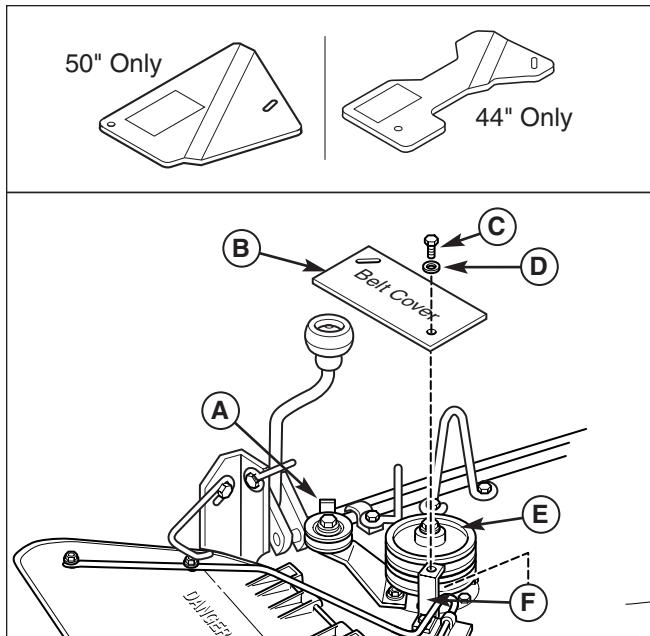

Figure 23. Install Belt Cover Plate
10. 44 and 50" Models - Attach the belt cover (B, Figure 23) to support bracket (E) securing with 5/16-18 x 1 capscrew (C), washer (D) and 5/16-18 nut.
1. Use cover plate (A, Figure 23) as a template to drill six 13/64" holes (C) on grass catcher cover (B) as shown.